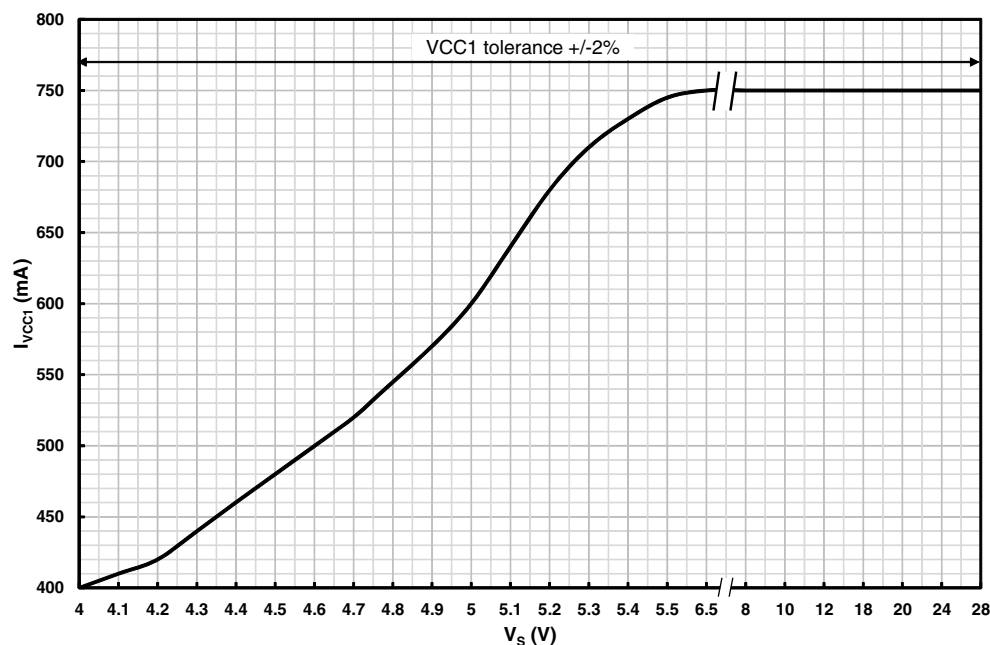

Figure 13 Maximum DCDC Buck current capability versus V_S
- **PWM Mode (Pulse Width Modulation):** This mode is available in SBC Normal Mode, SBC Restart Mode and SBC Stop Mode (only for automatic or manual PFM to PWM transitions. Refer to Chapter 6.2.2). In PWM, the Buck converter operates with a fixed switching frequency (f_{BUK}). The duty cycle is calculated internally based on input voltage, output voltage and output current. The precision is $\pm 2\%$ on input supply and output current range (refer to Figure 13 for more information). In PWM Mode, the Buck converter is capable of a 100% duty cycle in case of low V_S conditions. In order to reduce EMC, the edge shaping feature has been implemented to control the activation and deactivation of the two power switches.
Note: **Figure 13** is based on characterization results overtemperature with external components specified in **Chapter 14.1**.